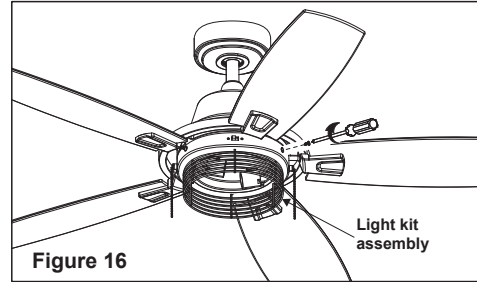

Figure 16
Step 9. Attach the light kit assembly to switch housing. Replace the screw previously removed on step 8. Tighten all switch housing screws securely. (Figure 16)